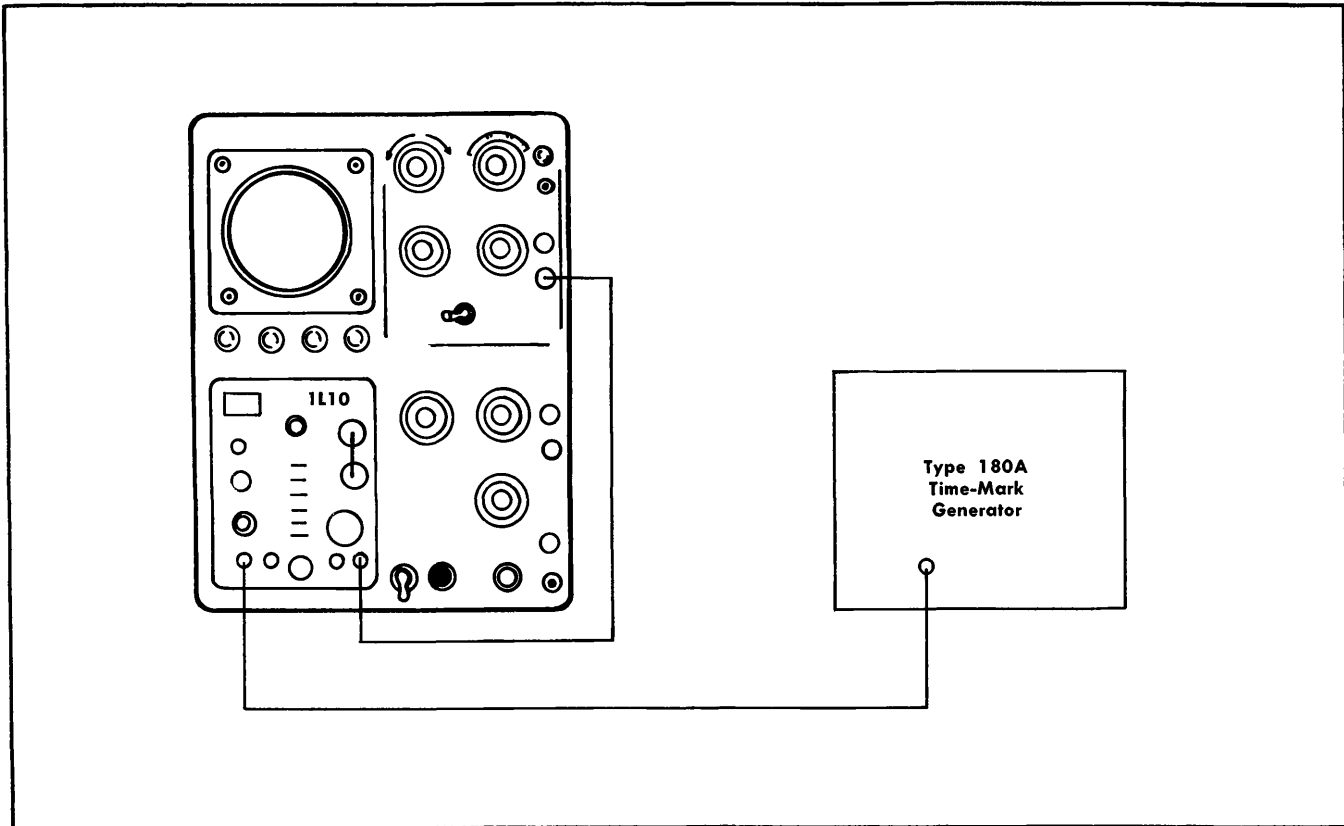

Fig. 4-10. Equipment setup for checking oscillator tracking and accuracy.
1. Set up the equipment as shown in Fig. 4-10.